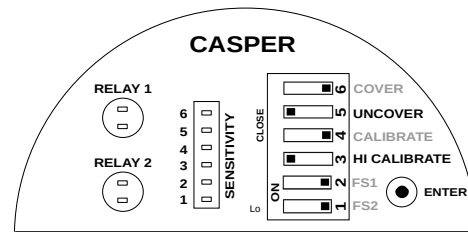

Figure 28: Uncover Delay Switch Position for Relay 2
- For setting uncover delay for RELAY 2, set the UNCOVER and HI CALIBRATE switch to CLOSE (Opposite of OPEN for DIP switch) position as shown in Figure 28.